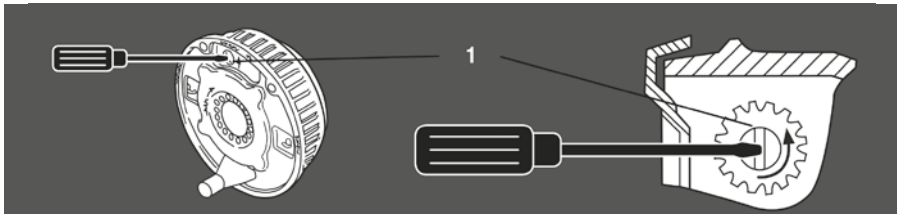

Figure 11
5. **ALWAYS** rotating the road wheel in the forward direction - **NEVER** backwards; adjust the starwheel with a suitable screwdriver, in the direction of the arrow embossed on the backplate until there is resistance in the wheel rotation. (Fig. 11).
6. Slacken off the starwheel adjuster until the road wheel turns freely in the **FORWARD** direction. (Fig. 11).